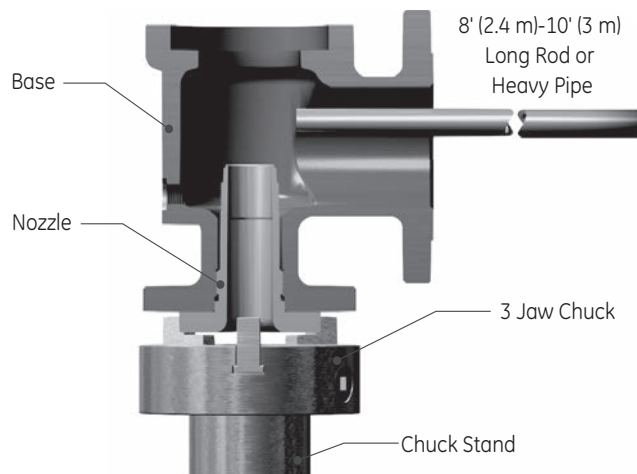
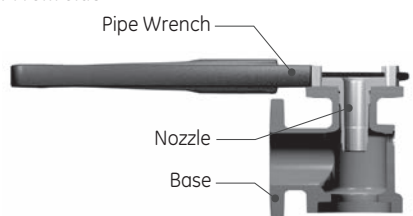

Figure 31: Loosening the Nozzle from the Base
Figure 32: Removing the Nozzle from the Base
- Use a large pipe wrench on the nozzle flange to remove the nozzle from the base (Figure 31).
4. Remove the Nozzle from the Valve Base as suggested in Figure 31, or by using a Hex wrench or a pipe wrench on the flange as indicated in Figure 32.
3. Remove the Nozzle from the Valve Base as suggested in Figure 31, or by using a Hex wrench or a pipe wrench on the flange as indicated in Figure 32.